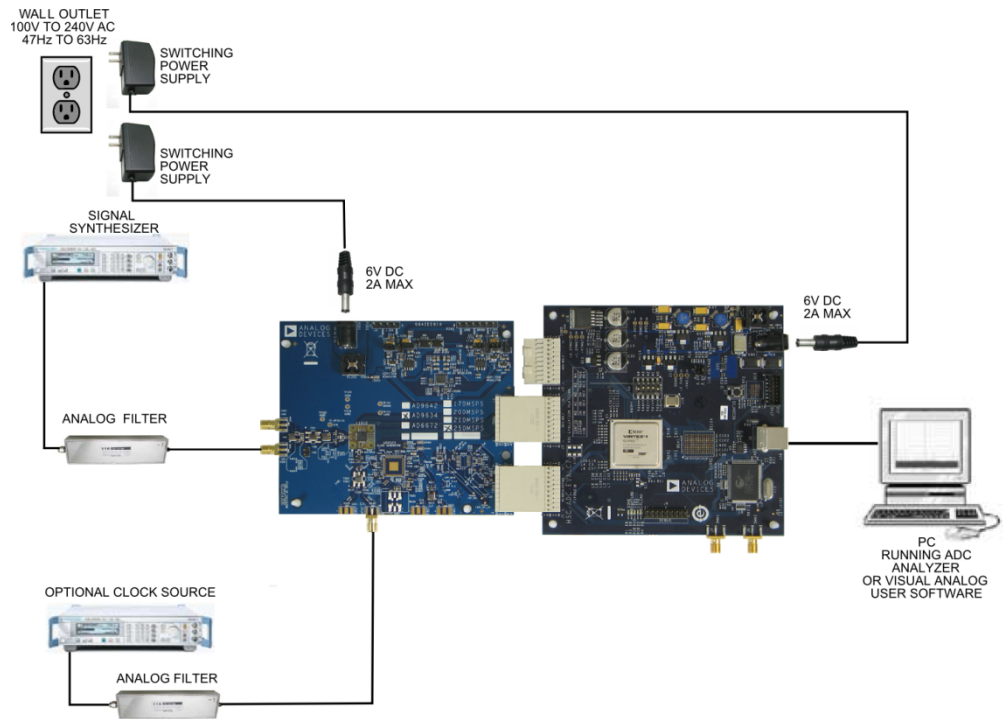

Figure 1: AD6672 Evaluation Board with HSC-ADC_EVALCZ Data Capture Board
1. Connect the AD6672 evaluation board and the HSC-ADC-EVALCZ board together as shown in Figure 1.
9. Next open the SPI Controller software. If prompted for a configuration file, select the configuration file titled AD6672spiR03.cfg. If not, check the title bar of the window to see which configuration is loaded. If necessary, choose "Cfg Open" from the "File" menu and select one of the configuration files named above. Note that the CHIP ID(1) field may be filled whether the correct SPI Controller configuration file is loaded or not.
11. Set the DCO Clk Delay Enable checkbox in the FLEXOUTPUT DELAY(17) panel on the ADCBase0 tab as shown below. In addition, set the DCO Clk Delay register to the '600ps additional delay on DCO pin'. Also set the O/P Port DCO Clk Invert checkbox in the OUTPUT PHASE (16) panel. These settings align the output timing with the input timing on the capture FPGA.